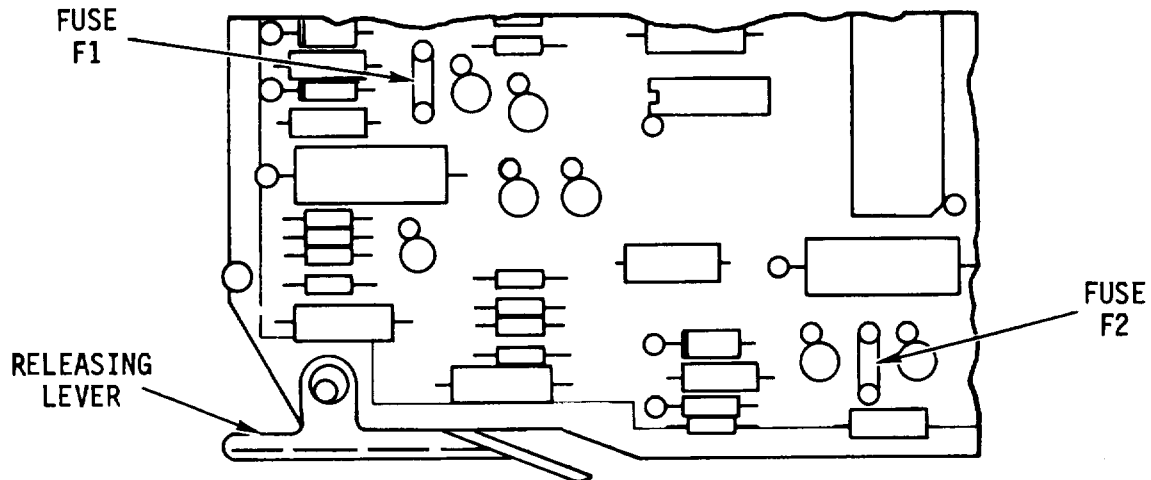

Figure 2-13. Pico Fuses F1/F2 on Logic Board
(1) Paper handling logic works in conjunction with the vertical format unit photosensor board (TVFC/1) housed in the slew strobe assembly.
(2) Motor control logic is activated when it receives a motor-on or motor-off command from the data source.
(3) Alarm logic is activated when the line printer is out of paper, when there is a slow speed on the print belt, or when there is a low voltage on any of the power supplies on the PSR.
(4) Clocking and timing for print synchronization is based on a 2-phase clock system derived from a 3.2 MHz crystal clock oscillator. The two Pico fuses (fig. 2-13) protect the clock timing circuits.